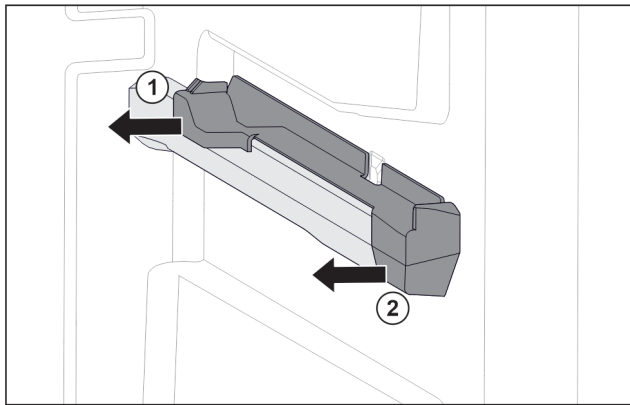

Fig. 149 Attachment on the right moulded rib
- Pull off attachment at the back sideways. Fig. 149 (1)
- Pull off attachment at the front sideways. Fig. 149 (2)